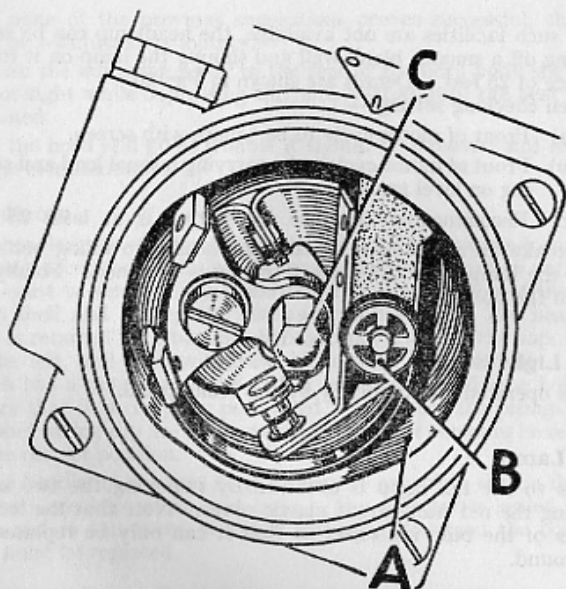

Fig. 21. Magneto Contact Breaker.
The cam ring is lubricated from a felt pad set in the bottom of the ring. Every 3,000—4,000 miles apply a few drops of thin machine oil through the hole at (A) Fig. 21, in the lower edge of the cam ring.